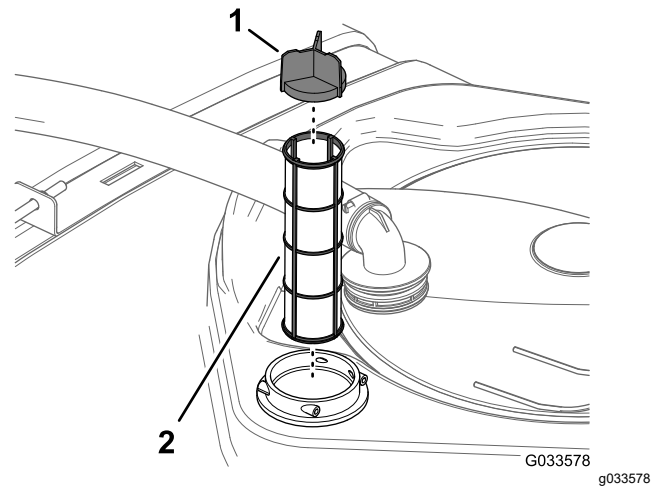

Figure 114
4. Remove the old suction filter from the filter housing in the tank (Figure 114).